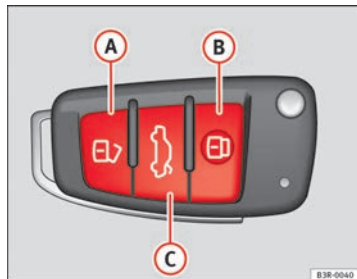

Fig. 77 Remote control key: Control buttons
- Press button **A** ⇒ Fig. 77 for about 1 second.